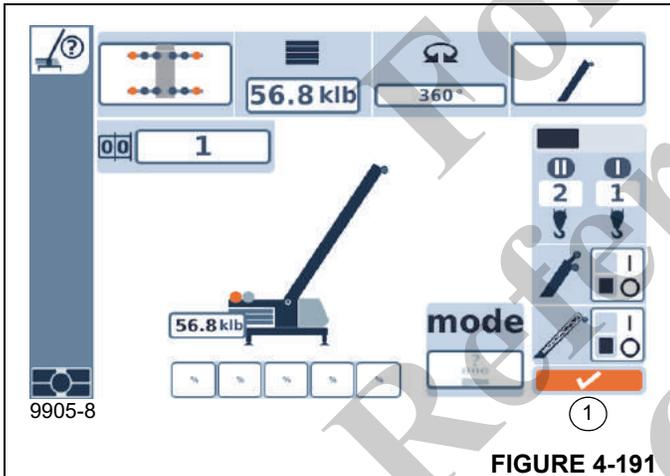

FIGURE 4-191
- Select the symbol (1, Figure 4-191).